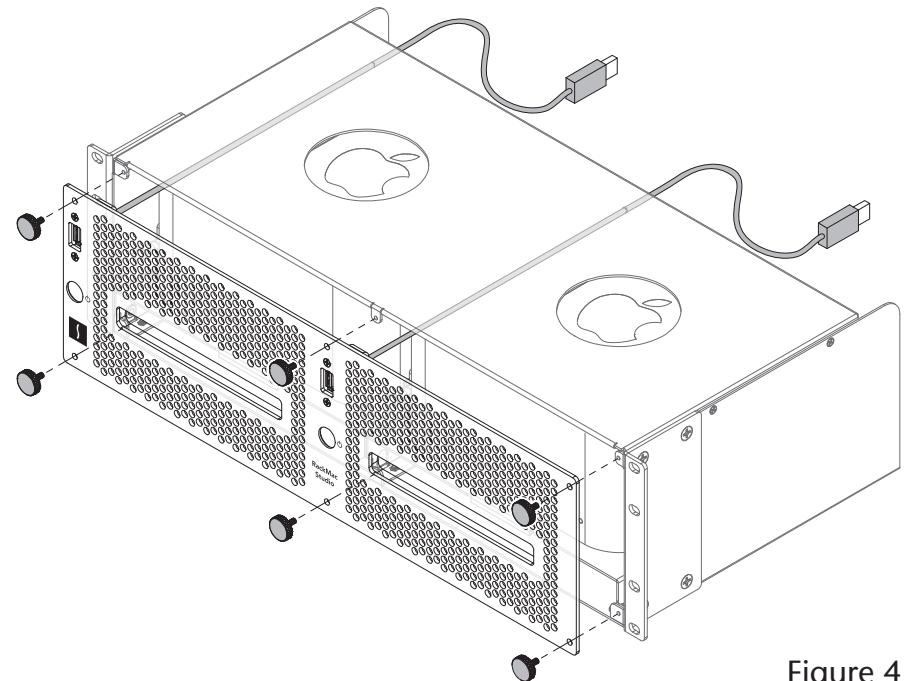

Figure 4
5. Route the front panel's USB cables through the enclosure above the power switch mechanisms as shown (**Figure 4**).
6. Using the six thumbscrews you removed previously, secure the front panel to the enclosure; **do not overtighten the screws** (**Figure 4**).